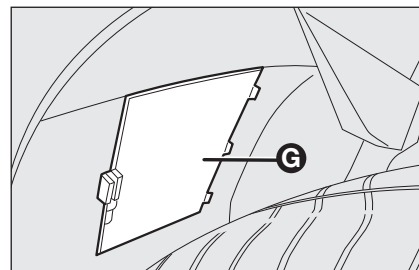

fig. 13
- ☐ fully steer the wheels outwards to expose the flap **G-fig. 13**, open the flap and unscrew the fastening device;